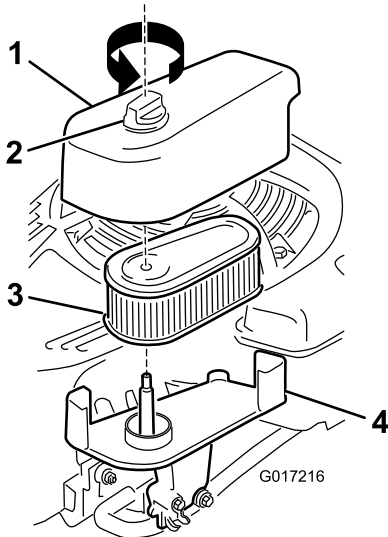

Figure 28
1. Loosen the fastener and remove the air-filter cover (Figure 28).